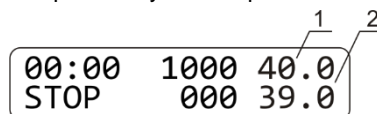

Figure 6. Display after calibration:
- 6.5. The display will show calibrated temperature as shown on fig. 6/1 and the unit will continue thermal stabilization according to the previously set temperature.